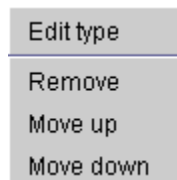

Figure 73 : Contextual menu
- ◆ Right click on a port to display the contextual menu (Figure 73) and select **Edit Type**.
- ◆ Or right click on a port to display the contextual menu (Figure 73) and select **Remove**.